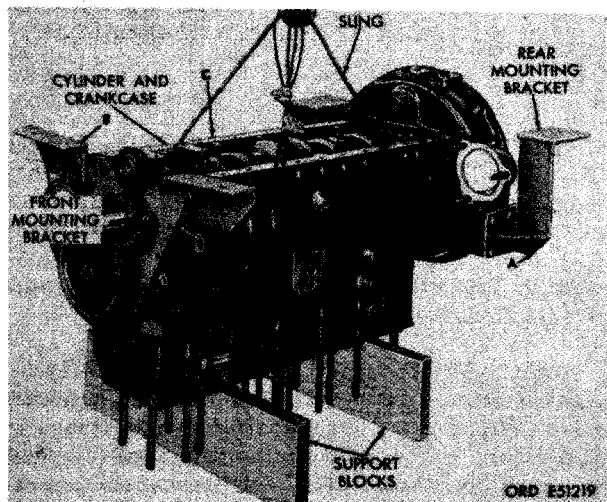

FIGURE 477. INSTALLING ENGINE MOUNTING BRACKETS AND LIFTING STRIPPED ENGINE FROM SUPPORT BLOCKS.
a. Install Engine Mounting Brackets. Figure 477. (A) Install engine rear mounting brackets